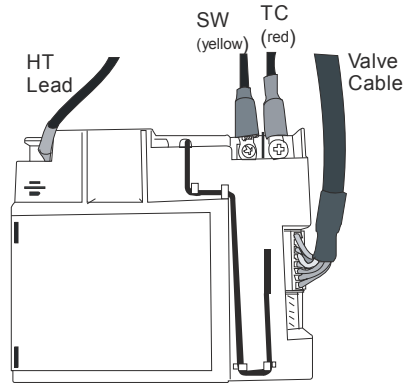

Figure 35
3. Connect the cables from the valve to the receiver as shown in **Figure 35** keeping the cables clear of the underside of the tray. Does not force the valve cable plug when inserting into the receiver – it only fits one way.